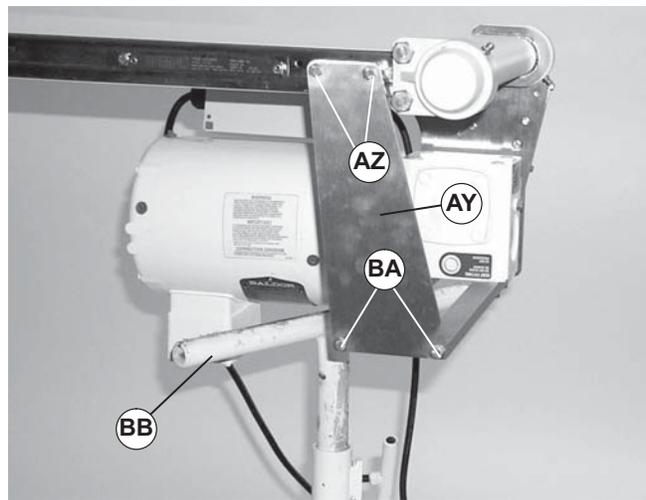

Figure 25
For conveyor with a Heavy Load Bottom or Top Gearmotor Mounting Package, bracket (Figure 25, item AY) must be removed.
The weight of the gearmotor is all on one end of the conveyor which could cause it to tip off the stands when the mounting clamp plates are loosened. Be sure to provide support (Figure 25, item BB) and (Figure 26, item BB) underneath the gearmotor while changing the be
- Place a temporary support (Figure 25, item BB) and (Figure 26, item BB) under gearmotor mounting package.
7. For a conveyor with a Heavy Load Bottom or Top Mounting package, install bracket (Figure 25, item AZ).